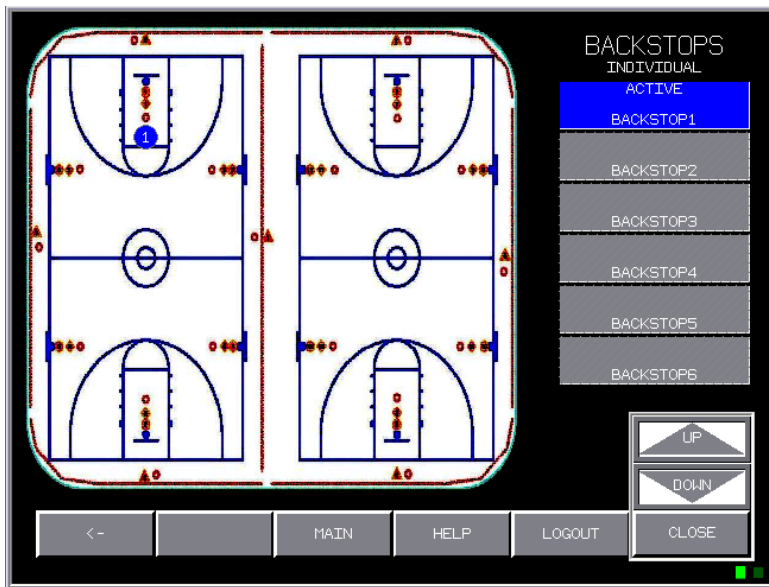

Figure 3
Simply follow instructions on the screen to select and use the arrows up and down. After the unit is done being moved the selected button will return to blue instead of the green while it is operating. The button will also say “Active” when not moving and “Moving” when the up or down button is pushed. If done moving unit, the button “close” must be pushed otherwise the unit will still be selected. See figure 3.
- 3) Select the device you wish to move. See figure 3.